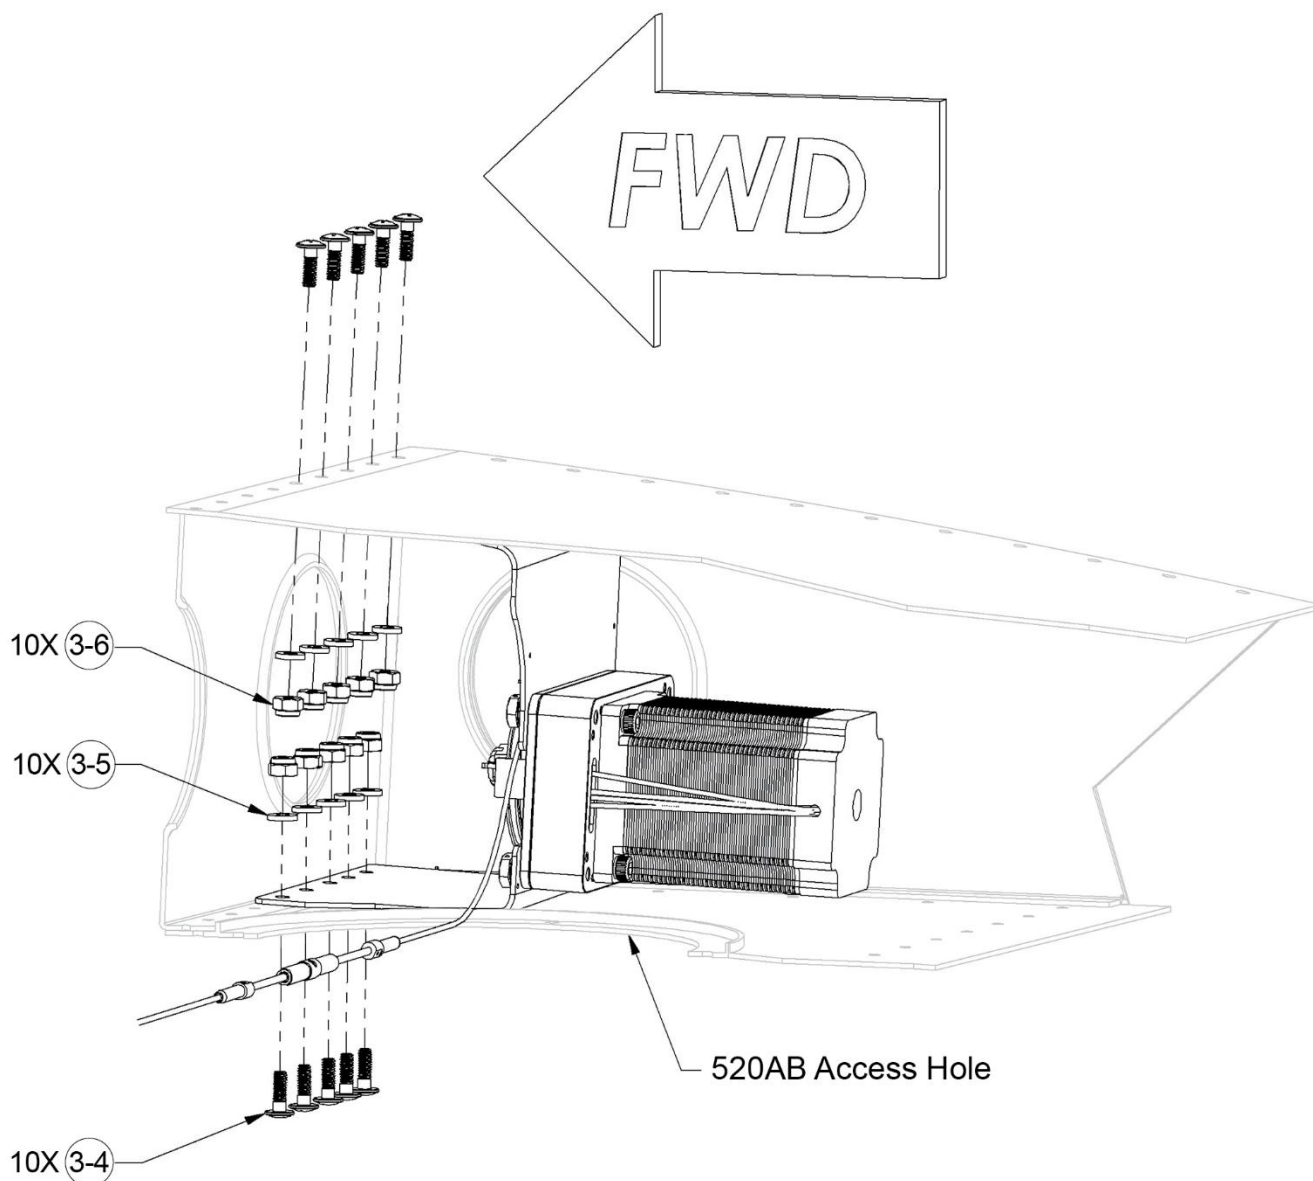

Figure 11: Attaching Roll Servo Assembly to Wing Skins and Rear Spar
15. Attach roll servo assembly to wing skins and rear spar, as shown in Figure 11.